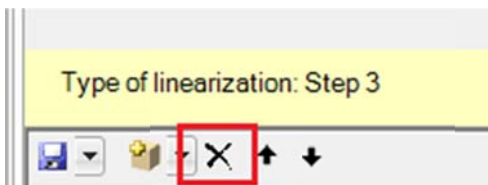

Figure 4
32. Click the delete segment button (X). See figure 4